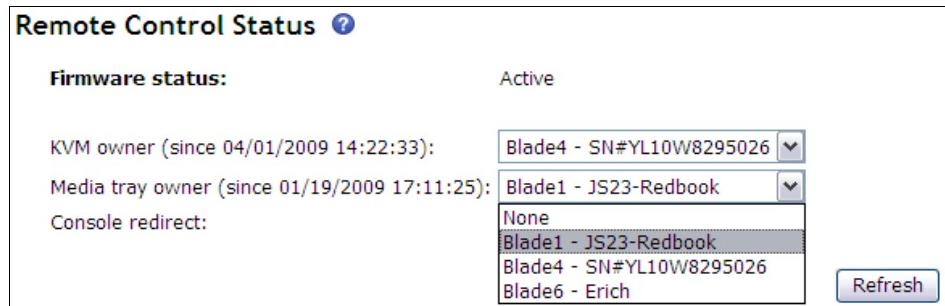

Figure 9-1 Start Remote Console panel
2. In the right panel look for Media Tray Owner and click the drop-down arrow to display the different blade bays. Select your blade bay location with the mouse as shown in Figure 9-1.